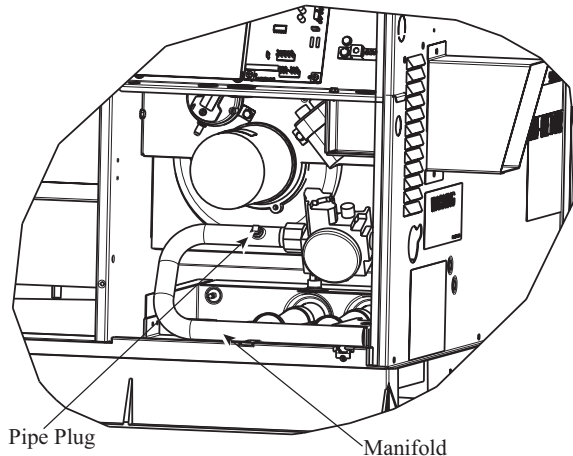

Fig. 11 - Burner Assembly
2. Remove pipe plug on manifold (See Fig. 11) and connect manometer. Turn on gas supply to unit.
- Turn off gas supply to unit. Remove manometer from pressure tap and replace pipe plug on gas valve. (See Fig. 11.) Turn on gas to unit and check for leaks.